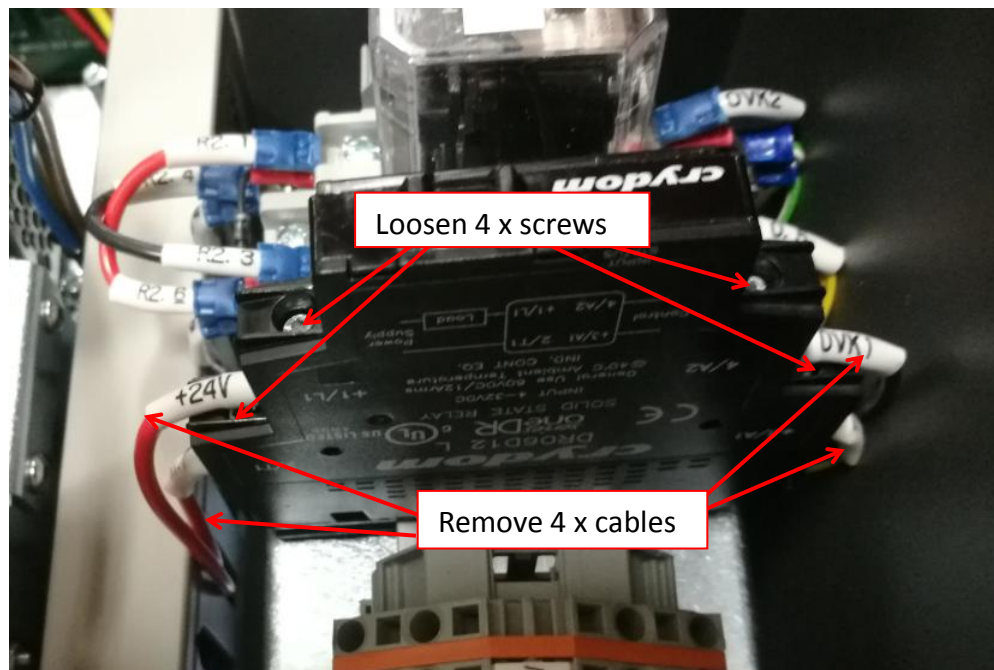

Figure 5 Relay cable removal
- i. Loosen 4 x Screws.Remove 4 x Cables as shown in Figure 5
2. May refer to Table 1 & Figure 5 for Relay 1 Cable Orientation